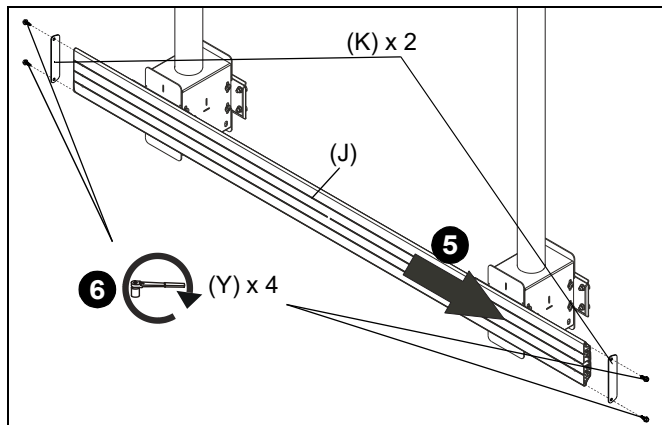

Figure 5
5. Slide X-large rail (J) onto second assembly (K) attached to column. (See Figure 5)
6. Use four 1/4 x 3/4" hex flange bolts (Y) to secure two side covers (K) to ends of rail (J). (See Figure 5)